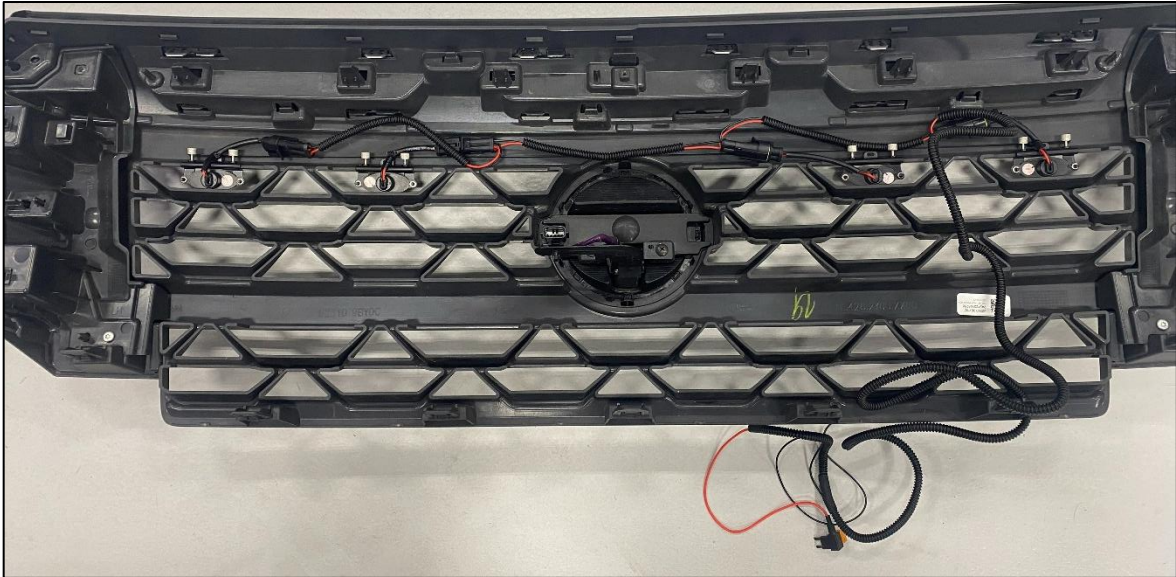

Figure 7
11. Locate the Grille Light Harness. Connect the Harness to each Grille Light and run the Harness to the Passenger Side of vehicle. Secure the Harness with Zip Ties where necessary. *Figure 7.*